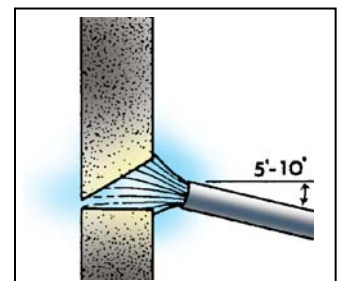

Figure 2
- a. Hold the electrode 5 to 10 degrees below a right angle to the work and tilted approximately 20 degrees in the direction of travel. Refer to Figures 2 and 3.